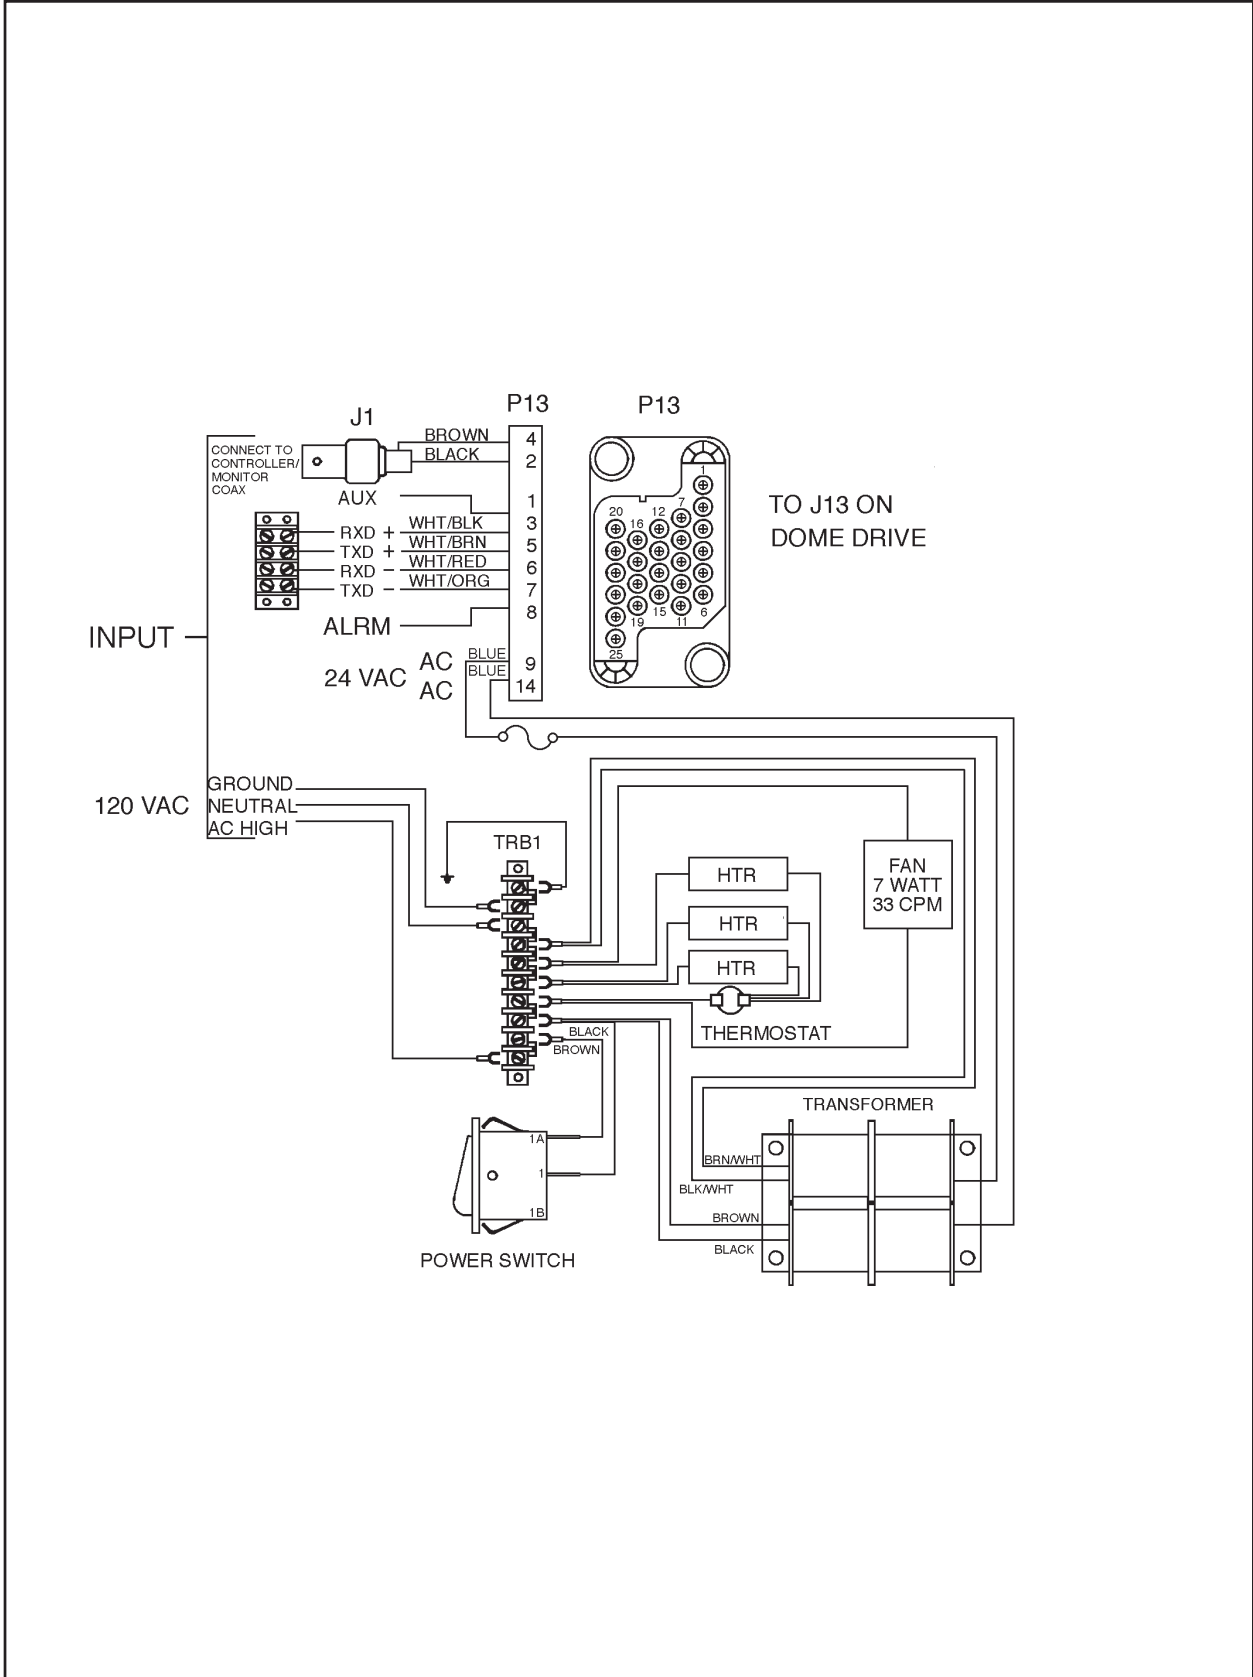

Figure 3. 24 VAC Back Box Wiring Diagram (for Dome Drives with Integral Receiver/Driver)
Refer to Figure 3, 4, or 5 for the following steps.
5. Connect the terminated wires to the terminal block as shown in Figures 3 through 6 depending on back box configuration.